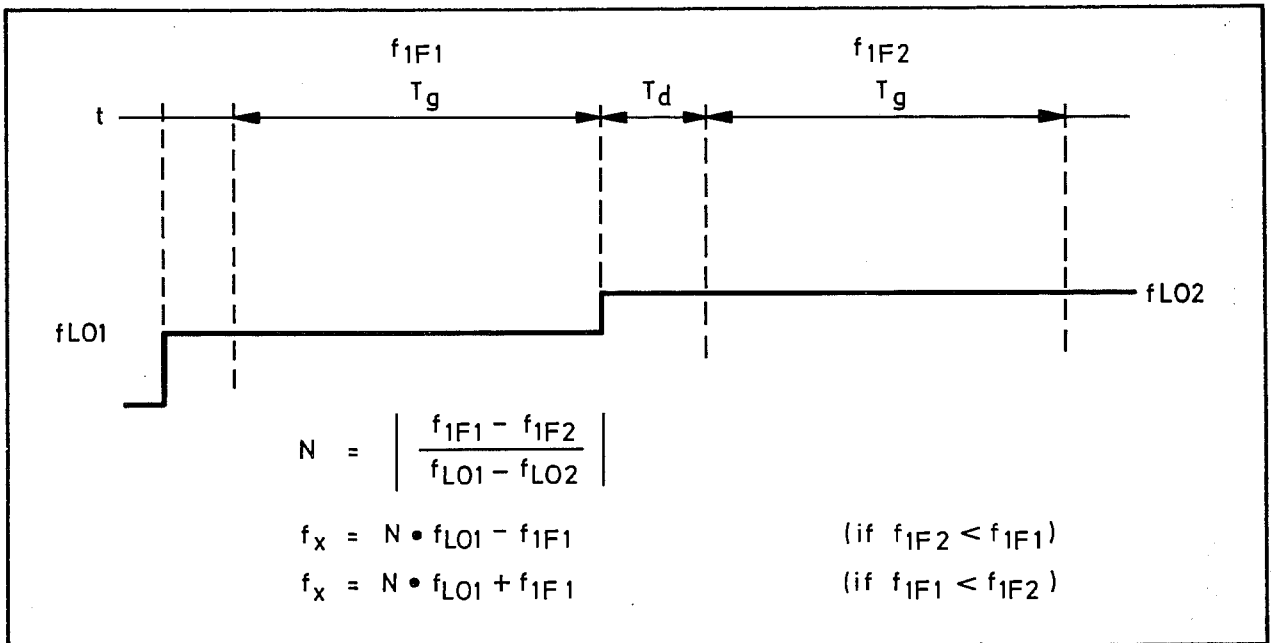

Fig. 6.5 Normal Acquisition Timing Diagram
- 30 Many RF and Microwave signals carry significant amounts of FM. The 2101 has in-built features that help it to cope with signals of this nature. To do this, the correct computation of 'N', the harmonic number, has to be maintained in the presence of FM. The following technique is used, and reference should be made to Fig. 6.5.